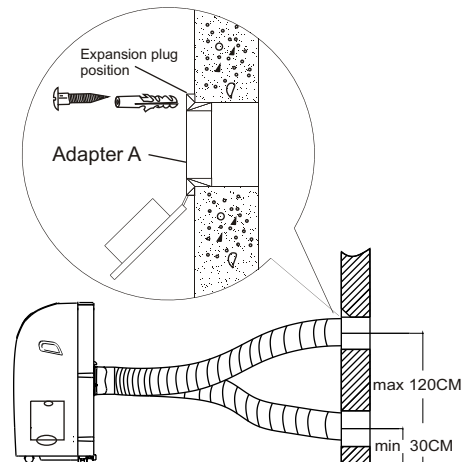

Fig.10
2. Install the adaptor A onto the wall by using 4 expansion plugs and screws, be sure to fix thoroughly. (See Fig.10)